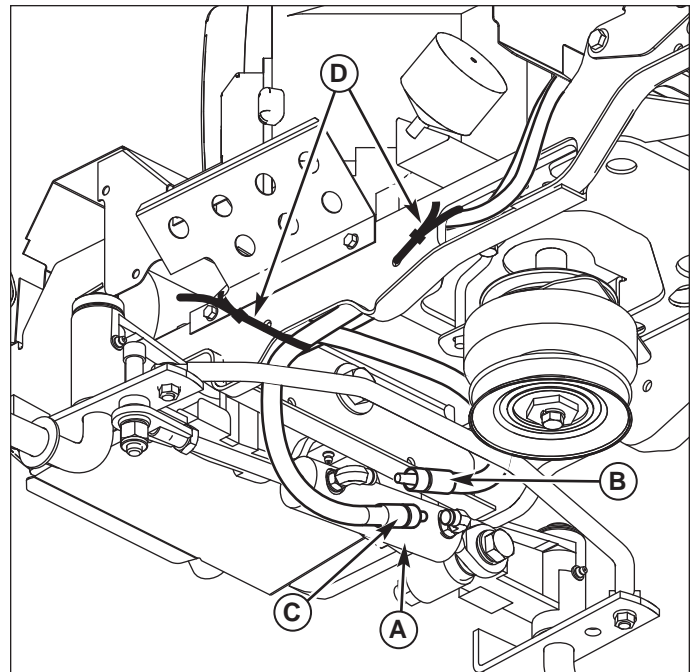

Figure 20 Steering Hose Connection
12. Route and attach hydraulic hose (B, Figure 20) (labeled "Port L") to hose fitting on left side of steering cylinder (A) as shown.
13. Route and attach hydraulic hose (C) (labeled "Port R") to hose fitting on right side of steering cylinder (A) as shown.
14. Secure hydraulic hoses (B) and (C) to frame using tie wraps (D) as shown.